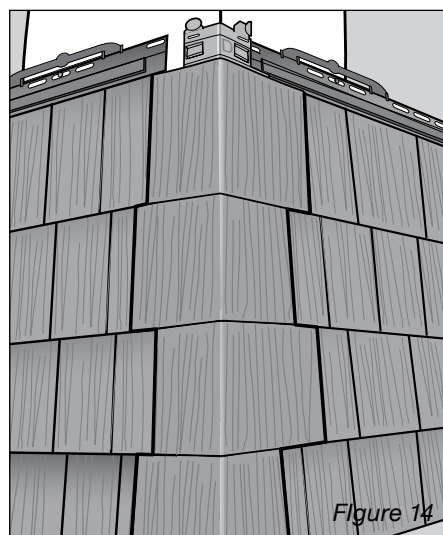

Figure 14
4. Continue installing the corner pieces as you move up the wall. Following the pattern of A, B, C, D and then repeat (Figure 14).